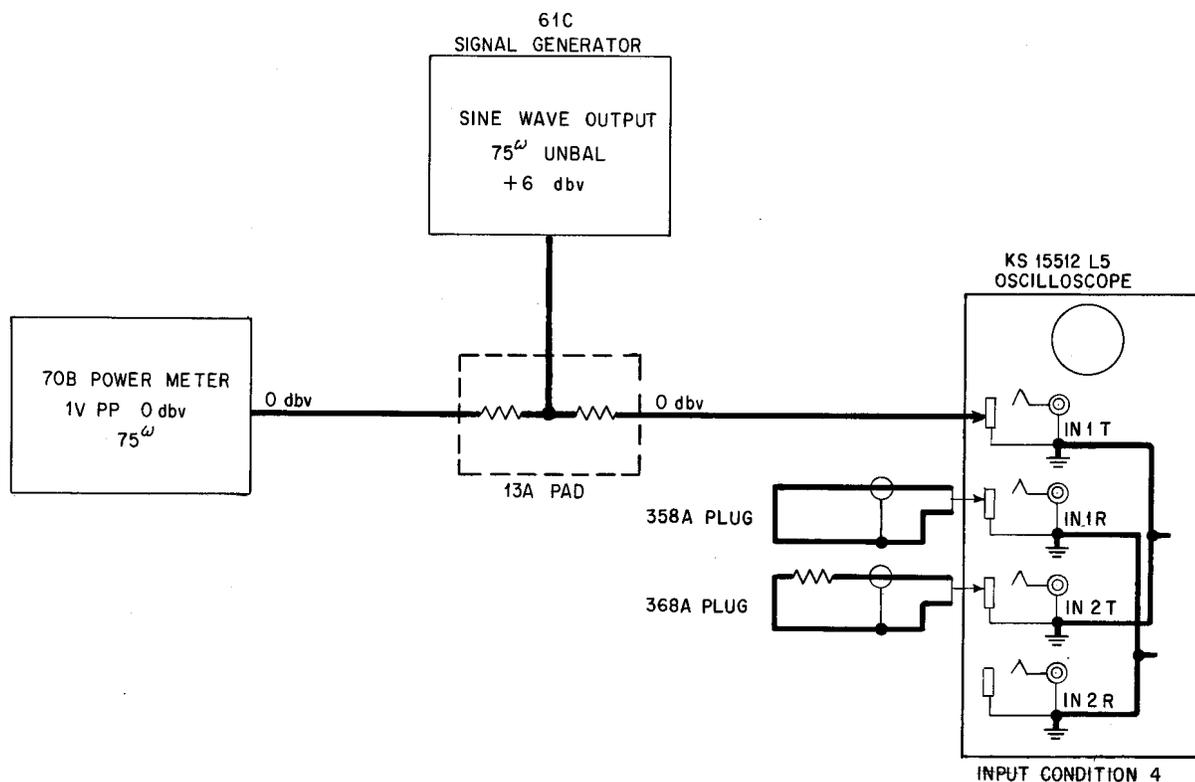

Fig. 10 – Calibrated Voltage Check
11.03 Set up the equipment as illustrated in Fig. 10. Adjust the signal source for a 1-volt peak-to-peak, 100 kc sine-wave signal at a 0 dbv level as read on the power meter.